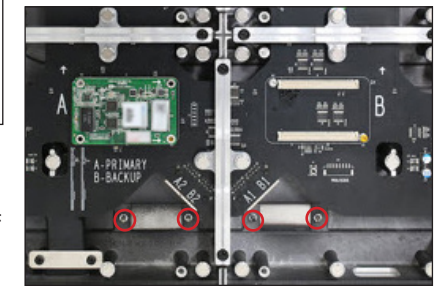

Figure 19: Remove Nuts from Cover
- Remove the two nuts (circled in red in **Figure 19**) securing the appropriate cover on the inside of the cabinet.